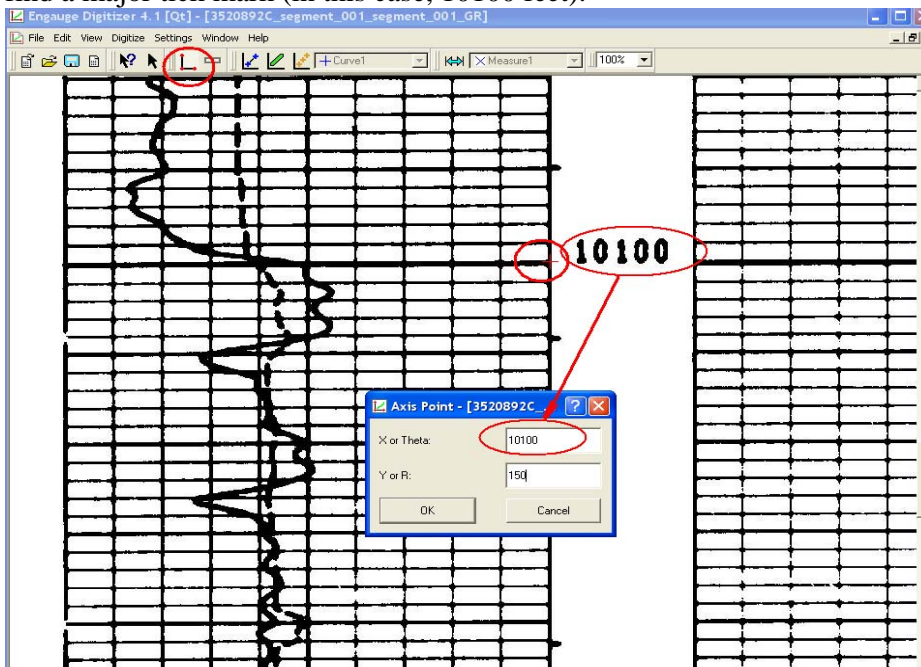

Figure 8, the third axes point (red cross) and its graph coordinates
- d. Click on one of the axes to add the third axis point, enter its graph coordinates. (Figure 8). X=10100(X meaning ft along the downward depth); Y=150.0 (Y meaning the value of GR along the horizontal axis). You may need to scroll down the image to find a major tick mark (in this case, 10100 feet).